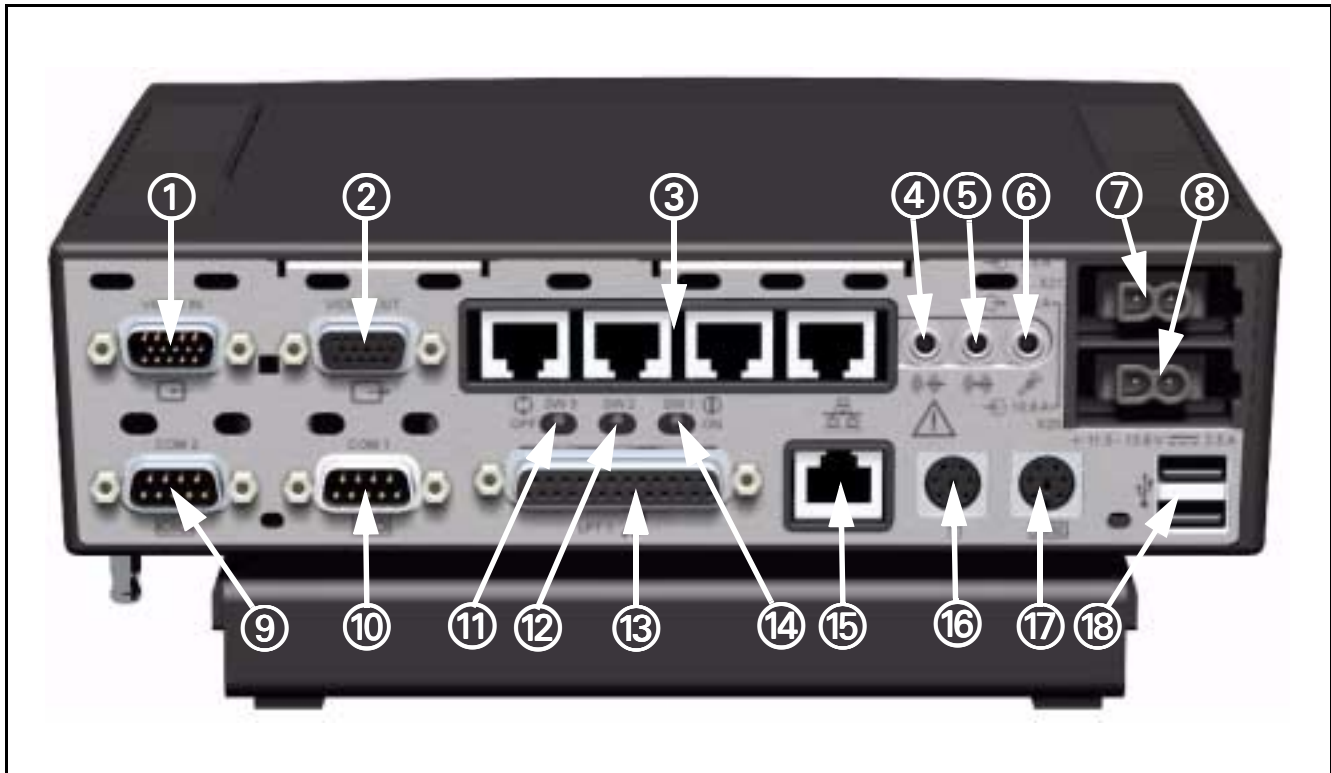

Figure 7-1 MDS (rear view)
- 1) Insert and tighten 15 pin video cable from monitor into video out connector (② in Figure 7-1 on page 13) on rear of MDS.
- 2) Plug in Keyboard cable into keyboard connector (⑰ in Figure 7-1) on rear of MDS.
- 3) Plug in mouse cable into mouse connector (⑱ in Figure 7-1) on rear of MDS.
- 5) Plug in power connector from MDS AC power adapter into Power In connector (⑦ in Figure 7-1) on back of Medside Data Station, and then plug in power cord from AC adapter into hospital grade outlet.